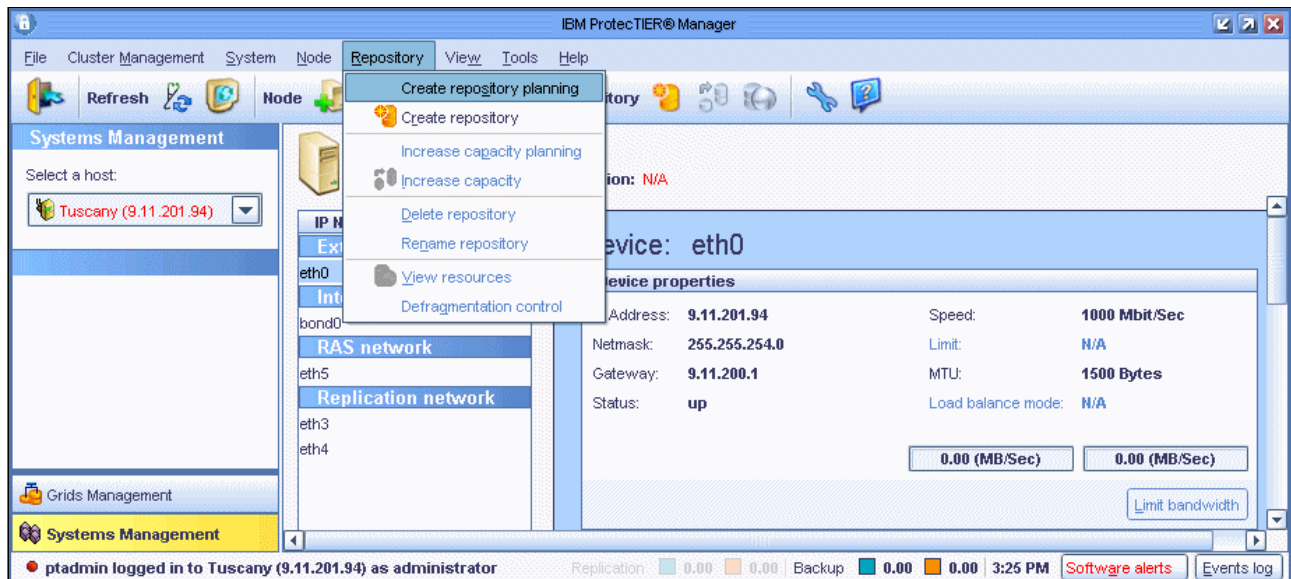

Figure 5-45 Create repository planning
1. Select **Repository** → **Create repository planning** (Figure 5-45). The Create repository planning wizard opens.